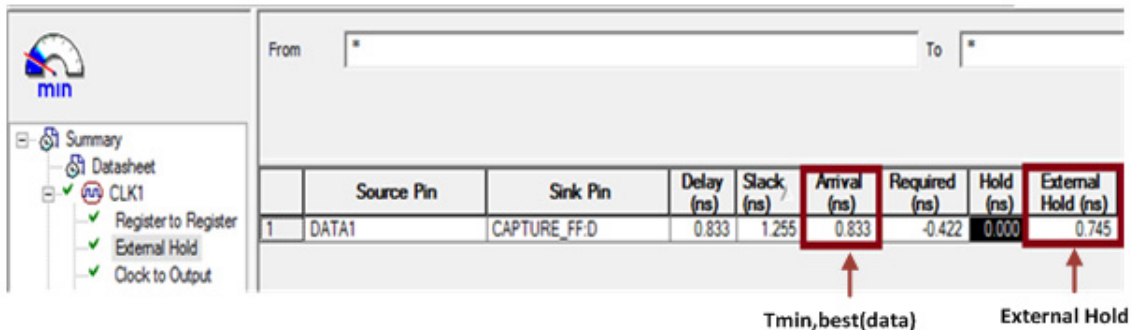

Figure 8 • SmartTime Best Case Setup Analysis
2. In Minimum Delay Analysis view, get the external hold time, as shown in Figure 8.